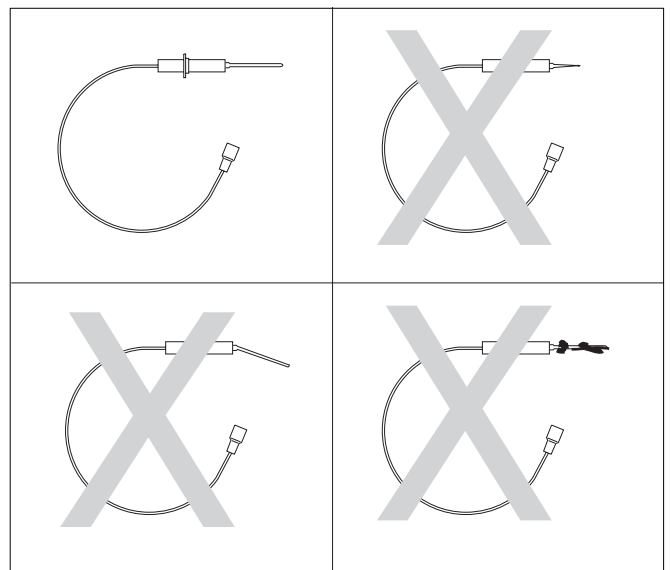

Fig. 70 Checking the ionization electrode
- Check the ionization electrode for contamination, wear or damage (see fig. 70).